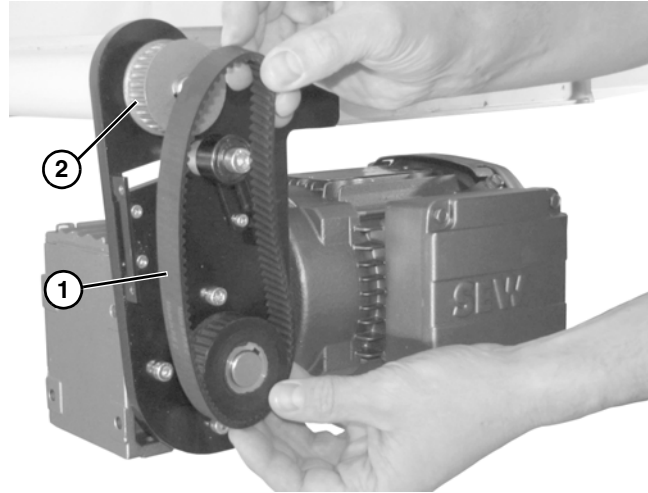

Figure 22
3. Remove timing belt (**Figure 22, item 1**).
If timing belt does not slide over pulley flange, loosen driven pulley set screws (**Figure 22, item 2**) and remove pulley with belt. For re-installation, see steps 6,7 and 8 on page 8.
If drive pulley (Figure 22, item 3) is replaced, wrap timing belt around drive pulley and complete step 3.